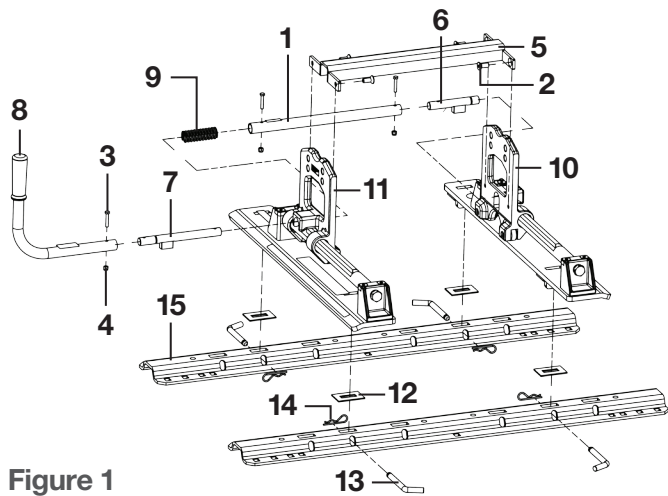

Figure 1
- 3) The rear rail on the passenger side is secured directly to the frame with 3" carriage bolts provided in the 16304 kit. For the row 3 attachment, a tube spacer should be placed inside the bed sill on top of the frame and under the bottom of the bed. Line up the spacer with the drilled hole before inserting the carriage bolt. Repeat for both sides. See FIG. 1 below.
- 4) For the Row 4 passenger side attachment, stack two 1/2" spacers and a bevel washer, provided in the 16304 kit, to fill the gap between the bed and the frame. Use another bevel washer, conical toothed washer, and hex nut to fasten the 3" carriage bolt in place. See FIG. 1.
Slide cross member weldment (#5) between the DS roller assembly (#11), PS roller assembly (#10) and over the lock rod assembly as shown in Figure 1. Secure with 10mm flat head bolts and torque to 35 foot lbs.